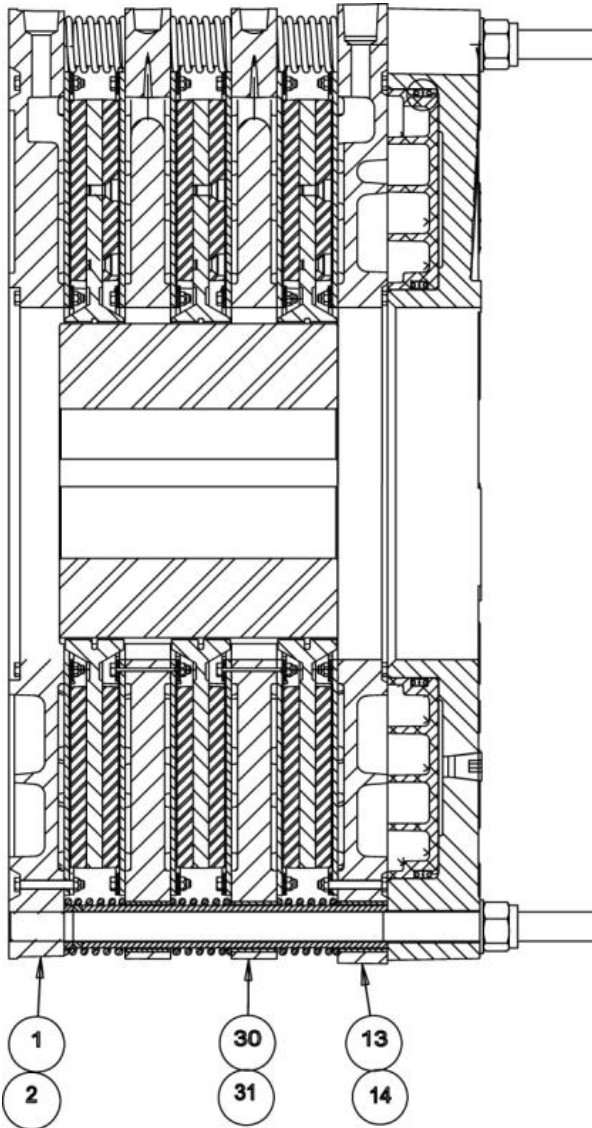

Figure 1
Note: The Pressure Plate (14), Reaction Plate (31) and Mounting Flange (2) will be referred to as IRON in the following paragraphs. Refer to **Figure 1** for item number references shown in parenthesis (#).